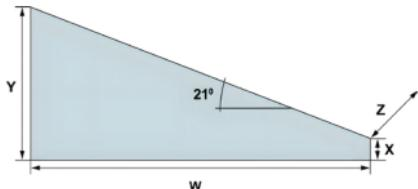

Figure 5. Moveable chock design, single high coil stacking.
For coils of up to a maximum of 1510mm diameter with the chock diagonal face up, or up to a maximum of 1620mm diameter with the chock diagonal face down, the chock width (W) should be a **minimum of 150mm** and chock height (Y) should be a **minimum 67mm** (Figure 5).
For larger coils of up to a maximum of 2010mm diameter with the chock diagonal face up, or up to a maximum of 2160mm diameter with the chock diagonal face down, the chock width (W) should be a **minimum of 200mm** and chock height (Y) should be a **minimum 87mm** (Figure 5).